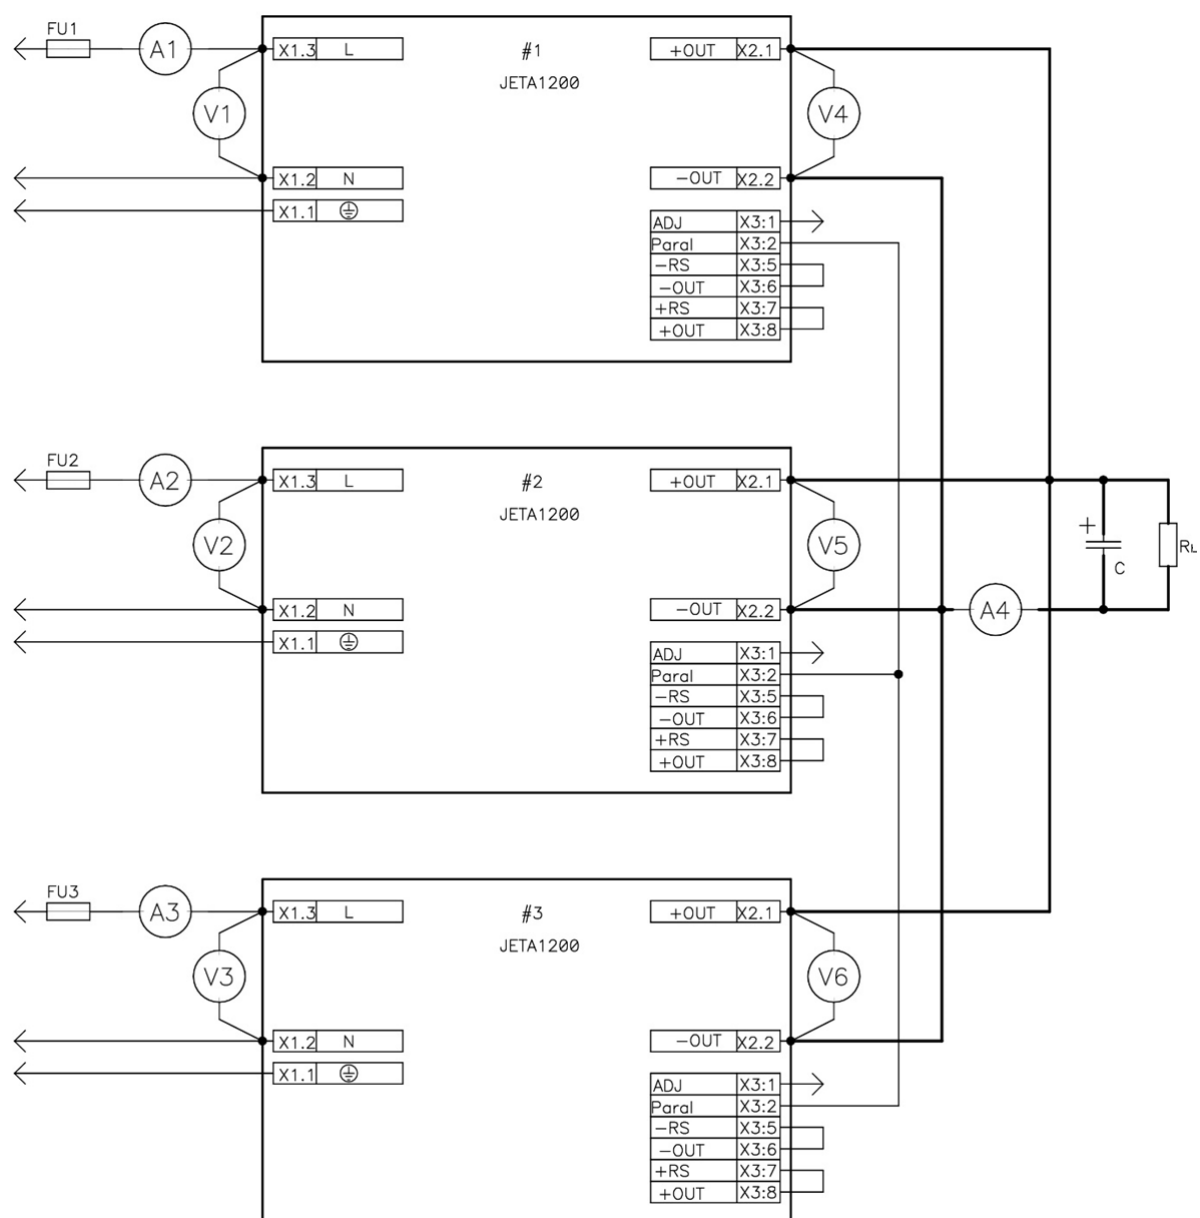

Fig. 6: increasing output power with parallel work, without dividing diodes
- In case when only output power increase is needed, without backup system, there is a possibility to use connection scheme shown in figure 6.
- When using connection scheme from figure 6 it's important to check thoroughly all function modes, which must be provided in equipment, for stable work. In terms of stable work - connection scheme with dividing diodes is more appropriate.